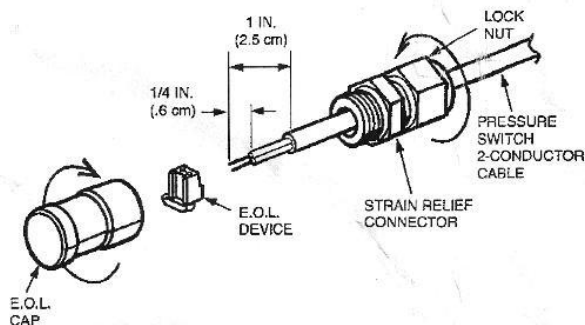

FIGURE 2
- h. Refer to Figure 2 for more detail.